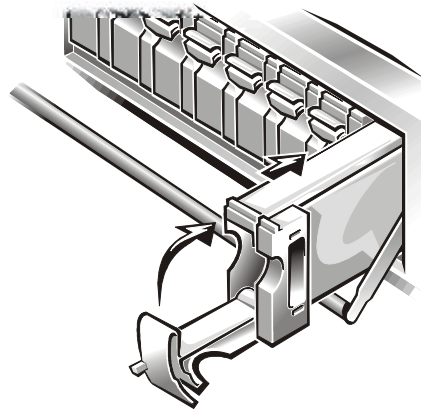

Figure 13. Installing a SCSI Hard-Disk Drive (System Shown with a Swing-out Lock Bar)
1. Carefully slide the hard-disk drive into the bay (see Figure 13). When the hard-disk drive is almost all the way into the bay, the carrier handle flips up.